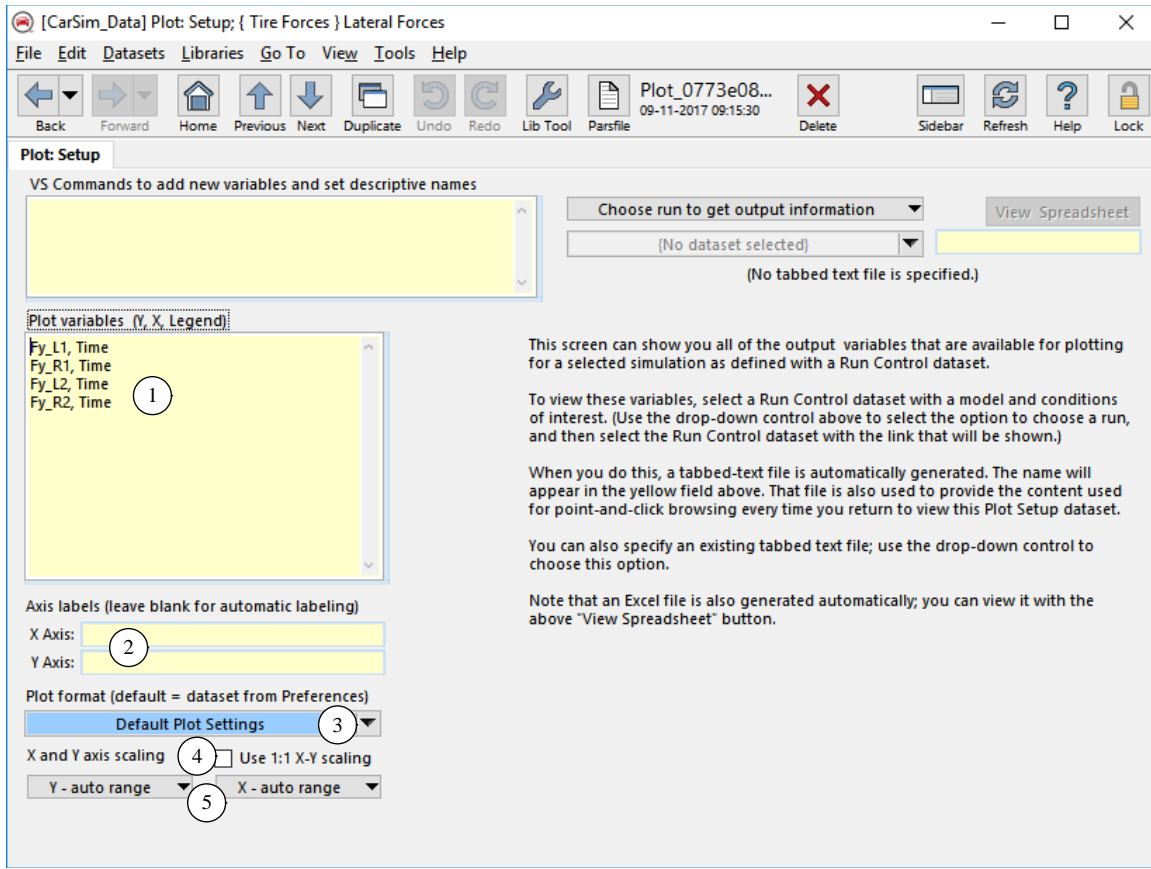
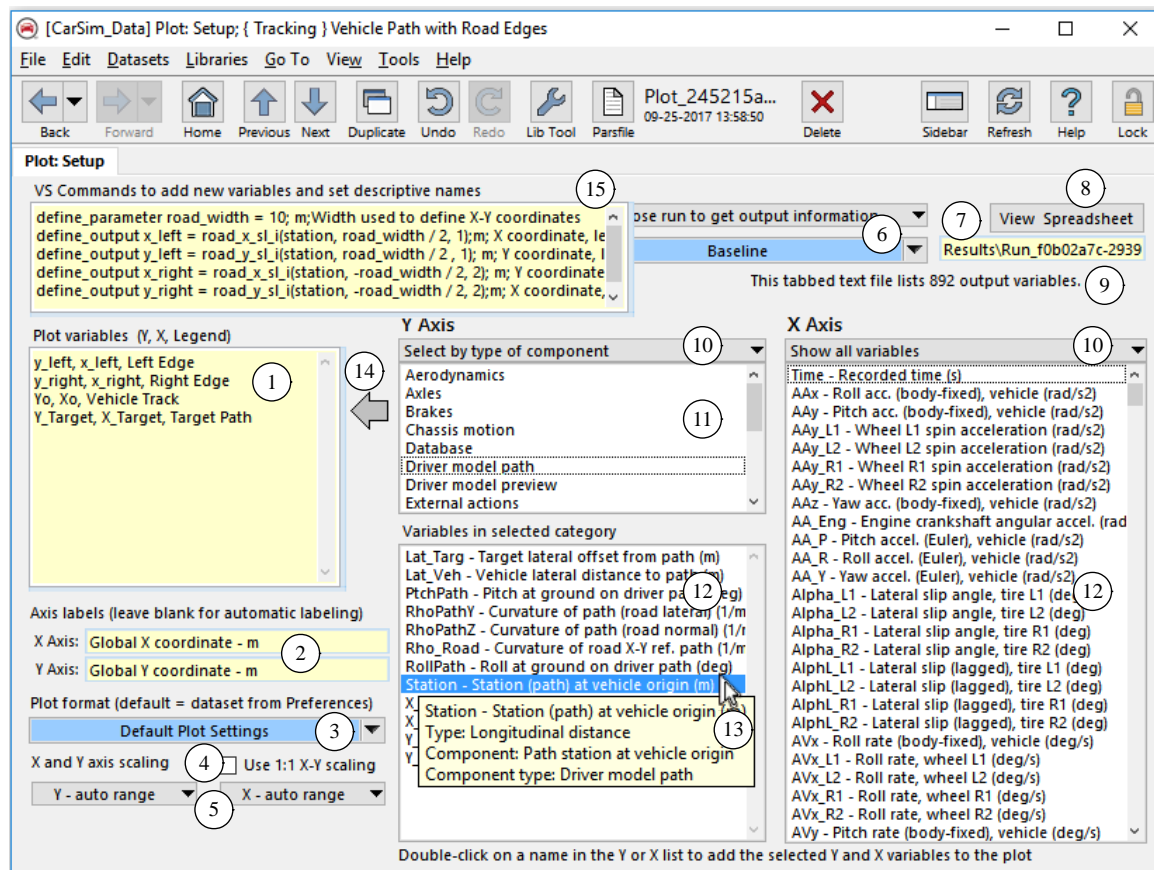

Figure 1. The Plot Setup screen (simple view).
Figure 2. Plot Setup screen showing browser and advanced options.
Figure 1 shows a typical dataset that has the minimal information needed to define a plot.
- ② Optional labels for the X and Y axes. If these fields are blank (Figure 1), VS Visualizer labels the axes based on keywords read from the VS or ERD header files. However, you can override these labels and specify your own (Figure 2). If any text appears in these fields, it will be used to label the axes instead of the information from the output file(s).
- ③ **Plot format** link. The linked dataset determines the style and scale of a plot. See the **Plot Format** section (page 7) for information about the format options.
- ④ Checkbox to use 1:1 scaling for the X and Y axis directions. When checked, VS Visualizer will use the same scale factor in both directions. This is helpful when viewing plots of spatial Y coordinates of points cross-plotted against the X coordinates of those points, such as tire contact locations, vehicle origin points, etc. In these cases, the scaling of m/pixel is the same in both directions. Cross plots can be printed and sized to obtain useful plots of the space requirements for vehicles.
- ⑤ **X and Y auto/manual scaling** drop-down lists. Use these to choose between manual and automatic scaling for each axis. When manual scaling is chosen, additional fields are shown to specify the minimum and maximum values.
Figure 2 shows a dataset with more controls and field in use.
Choose one of these options, and all categories in the selected type are shown in the list below ⑪, as seen for the Y axis in Figure 2. If the first option is chosen (Show all variables), then the list of variables is expanded to show all, as seen for the list for the X axis.
- ⑪ Category lists. Depending on the setting of the corresponding drop-down lists ⑩, these lists are hidden or show available categories.
Note that this field can be resized by dragging the right-hand boundary to make it wider (as in Figure 2), and/or dragging the bottom boundary to make it taller.
Define a new output variable for the VS Solver using the `define_output` VS Command in the text field (15). For example, four output variables are defined in the dataset shown in Figure 2 with the VS Command `define_output: x_left, y_left, x_right, and y_right`. Equations for each make use of the VS Command functions `road_x_sl_i` and `road_y_sl_i` to calculate X and Y coordinates based on distance along a road path (station) and a lateral distance.